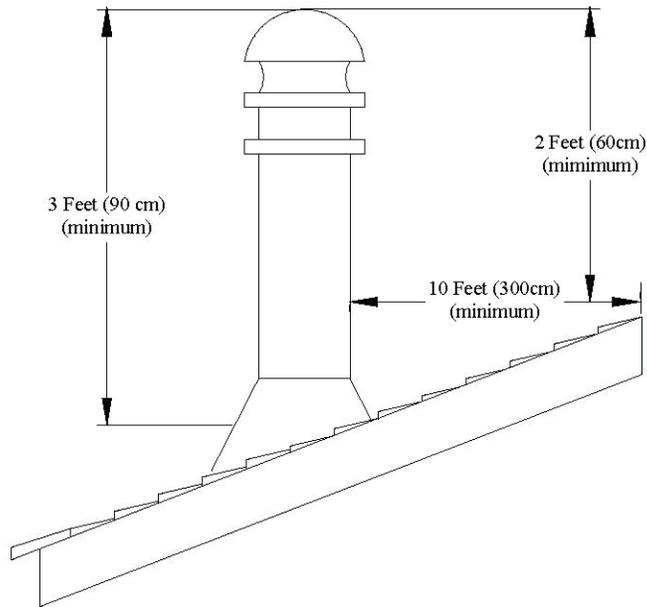

FIGURE 36: CHIMNEY ROOF CLEARANCES
- 1 **MINIMUM CHIMNEY HEIGHT:** A chimney must be a minimum of 8' above the top of a catalytic stove. The chimney must extend a minimum of three feet above the highest point where it passes through the roof. National building codes require that all chimneys shall extend at least 3 feet above the point where it passes through the roof. In addition, the chimney must extend at least 2 feet higher than any portion of the building that is within 10 feet of the chimney. FIGURE 36 shows chimney connector roof height requirements.